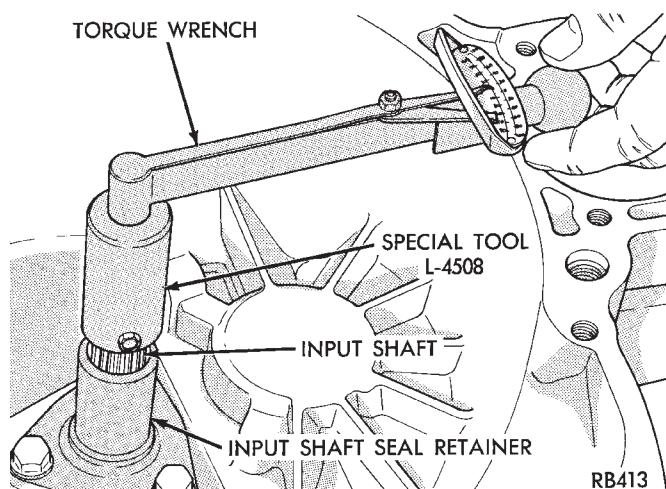

Fig. 2 Checking Input Shaft Bearing Turning Torque
(6) The shim required for proper bearing end play is the total of the gauging shim thickness, plus end play, minus (constant) end play of 0.051mm (.002 inch). Combine shims, if necessary, to obtain a shim within .04mm (.0016 inch) of the required shim (see Shim Chart for proper shim).
(7) Remove input shaft seal retainer and gauging shim. Install shim(s) selected in step (6). Then reinstall input shaft seal retainer with a 1/16 inch bead of MOPAR® Gasket Maker, Loctite, or equivalent for a gasket. Record end play. Observe the **CAUTION** in step (3). Tighten input shaft seal retainer bolts to 28 N•m (21 ft. lbs.).
(8) Verify that a preload condition does not exist. Use Special Tool L-4508 and an inch-pound torque wrench to check input shaft turning torque (Fig. 2). **The turning torque should be less than 5 in. lbs.**